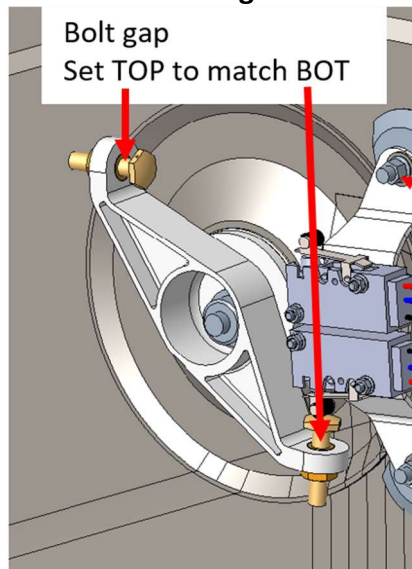

Figure 12. Adjust bolt gap
18. Adjust bolt on limit switch retrofit bracket so bottom (“BOT”) extended limit switch is activated. Adjust bolt gap on limit switch retrofit bracket so that top (“TOP”) side has the same gap as the bottom. Torque jam nut to 15±2 in-lbs. Reference **Figure 12**.